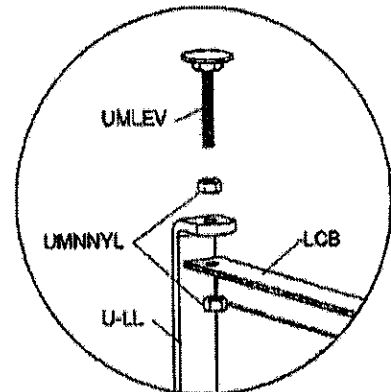

Figure 7. Close-up view of circled area, in Fig. 5 above, showing leg connector bar (see assembly directions on page 6).
3. With the bed frame in the vertical position, attach the leg connector bar using the adjustable leg leveller feet, as shown in Figure 7 (previous page).